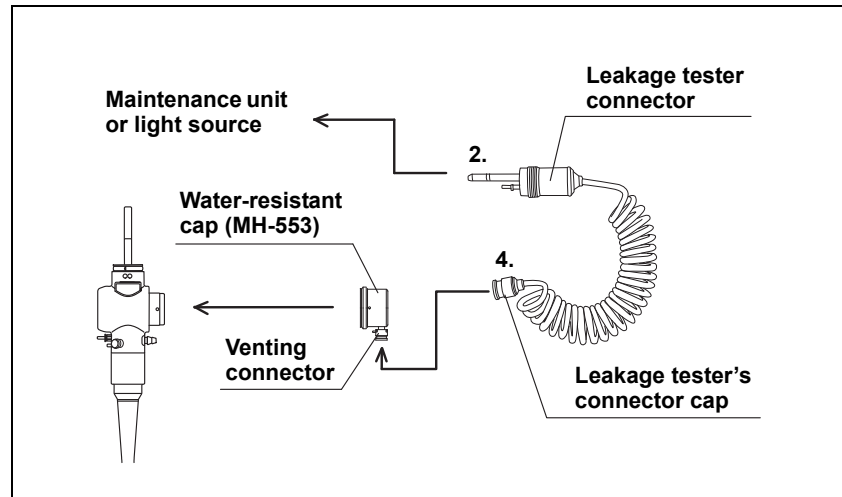

Figure 3.19
4. Connect the leakage tester's connector cap to the venting connector of the water-resistant cap (MH-553) (see Figures 3.19 or 3.20).